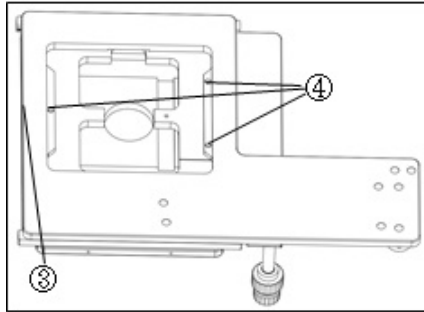

Fig. 4
2. Tighten the screw ③ on the side of the stage with the Allen wrench to secure the vessel holder plate.(Fig.4)
The moving parallelism of the stage and the flatness of the surface of the holder plate have been adjusted before leaving the factory. If unevenness is found, drop some alcohol on the screw ④ to loosen the screw and adjust the height of the three screws from below with a screwdriver.(Fig.4)